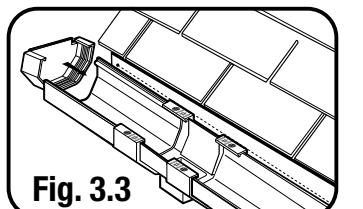

Fig. 3.3
- Attach Drop Outlet to gutter. Finish with an End Cap on the last piece of gutter. (Fig 3.3)